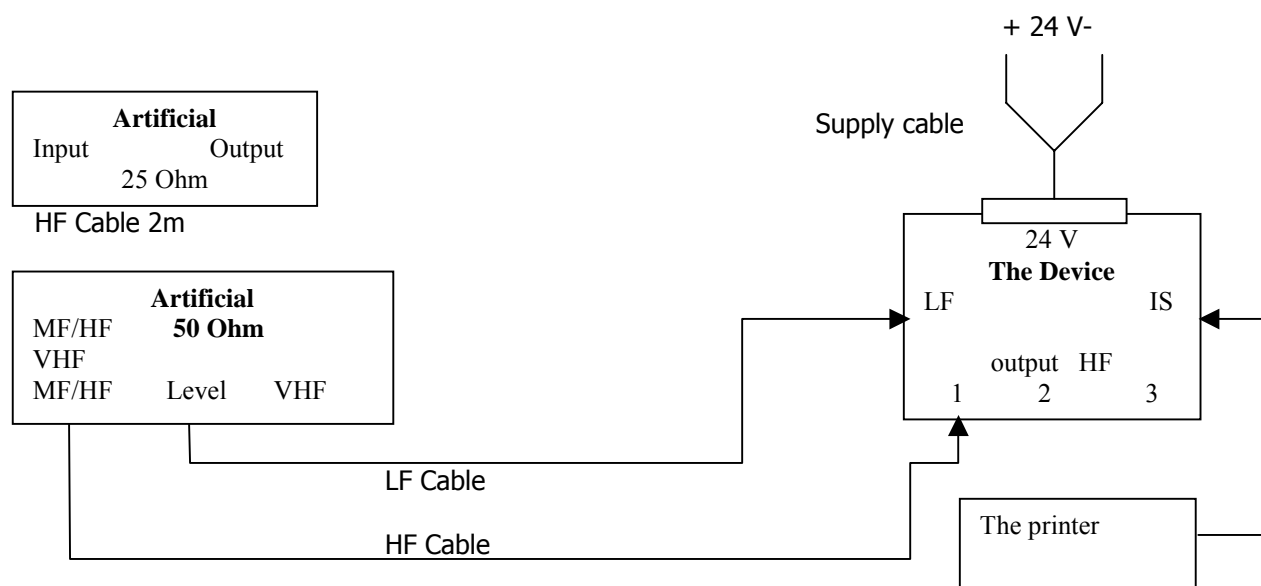

Fig.6.1.
6.2. Quality of the DSC message transfer, power of the transmitter, distortions which are made by the transmitter MF/HF path is checked under the block diagram of the fig. 6.1. Connect the 50 Ohm artificial instead of the antenna.
Check the message under the block diagram of a fig. 6.1.